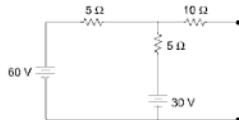

Fig. A1-30
- (d) State and explain Thevenin's theorem. Find Thevenin's equivalent of the circuit shown in Fig. A1-30.